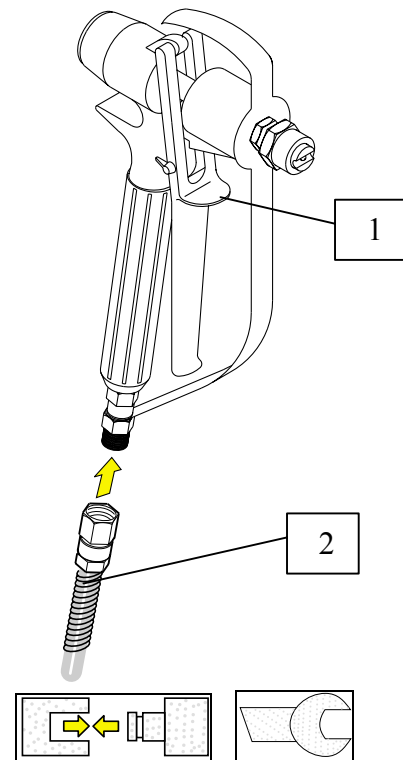

Fig.14
- 3) Connect the spray gun to the pipe and tighten with spanner (fig. 14). Making sure that it is clean.